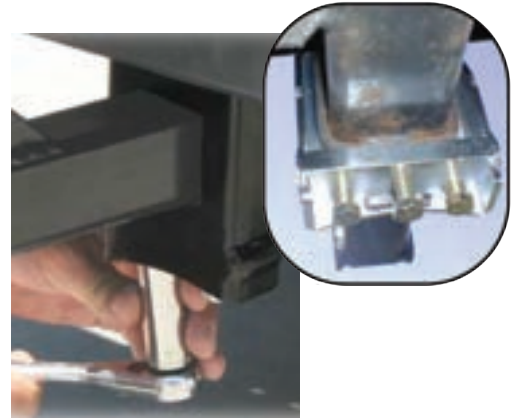

Figure 4-7
- Loosen the bolts on the anti-tilt lock bracket. There should be grooves where the bolts were tightened against the hitch receiver. *See Figure 4-7.*